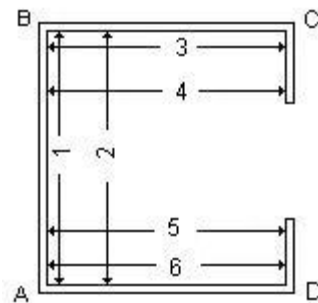

Fig 1
- 1 Measure wall to wall openings (1,2,3,4,5, & 6) as shown in Fig 1.
- i. Check the outer corners for square (C, D), Fig 1. Measure the gaps between the wall and the framing square, at the back or the front. Apply duct tape to the ends of the countertop. Mark this dimension, either in the front or back. Draw your line for the out of square cut with the Sharpie fine point marker. Do the same for the other side.